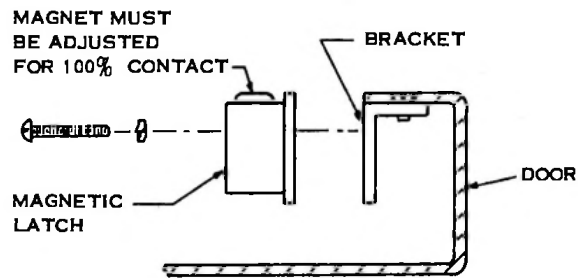

Figure 3. Installation of Magnet and Bracket on Door.
- e. Install the magnetic latch bracket on the door. Use 6-32 X 1/4 PFH screws, 330-2295-000. Refer to figure 3.
- f. Mount the magnetic latch on the bracket as shown in figure 3. Use 6-32 X 1/4 PPH screws 343-0167-000 and lockwasher, 310-0282-000. Adjust for 100 percent contact with striker plate.